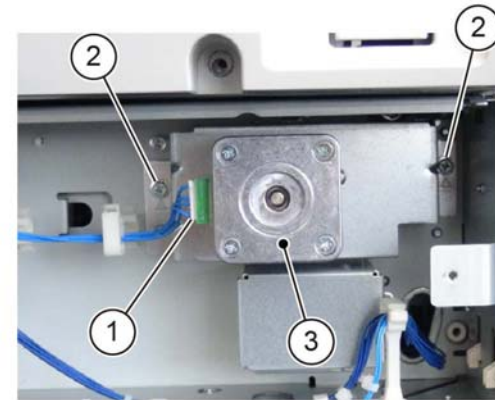

Figure 2 STM takeaway motor removal
2. Remove the STM takeaway motor, Figure 2:
- a. Disconnect the connector (1).
- b. Remove two screws (2).
- c. Remove the STM takeaway motor (3).